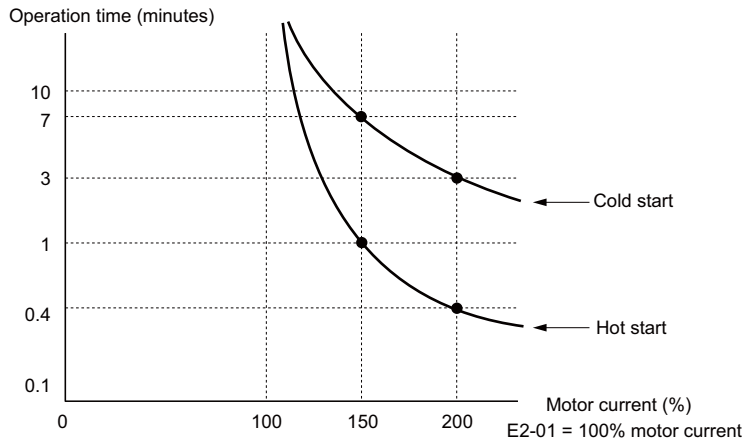

Figure 5.87 Motor Protection Operation Time
• **Figure 5.87** shows an example of the electrothermal protection operation time using a general-purpose motor operating at 50 Hz with L1-02 set to one minute.